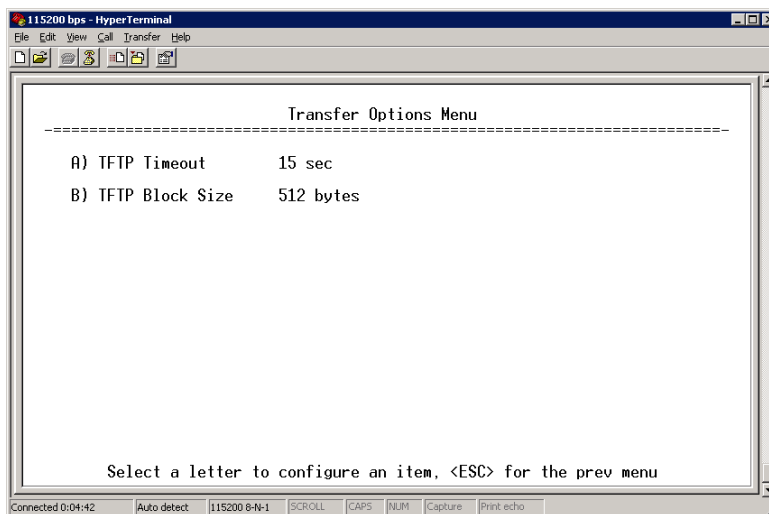

Figure 3-71. Transfer Options Menu
- **Transfer Options**—A menu for configuring the TFTP transfer. (See Figure 3-71 on Page 104.)